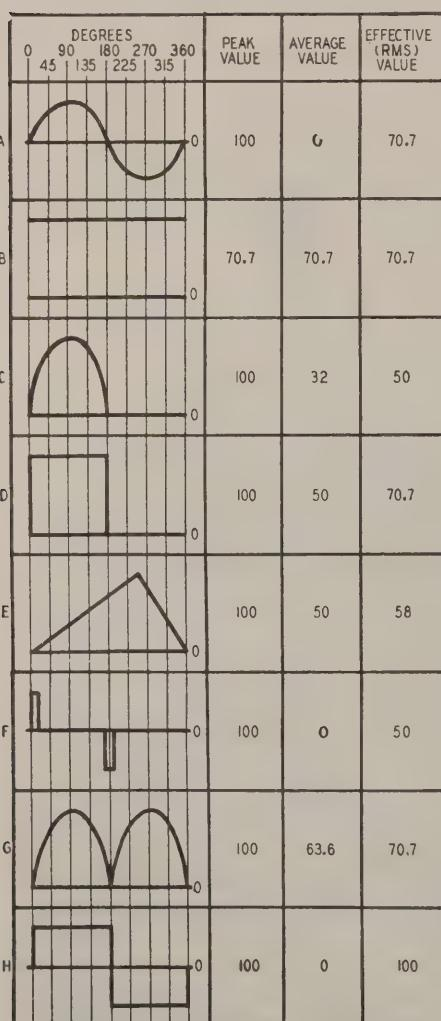
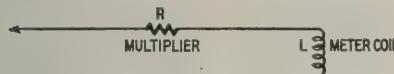

Fig. 1—Shape of the waveform affects peak, average, and effective values.
Fig. 2—Circuit of a d.c. voltmeter.
This is best illustrated by imagining the voltage of Fig. 1-a being measured by our voltmeter. The coil swings in one direction for the positive half of the cycle and in the opposite direction for the negative half. If both alternations are equal in amplitude, we have equal swings. The average of the two swings is, of course, zero, which is what the meter reads. The swinging of the needle is visible only if the frequency is very low. The meter reading is the average of the instantaneous motions of the needle, the average of the currents flowing through the coil over a short period of time. All d.c. meters are calibrated in average values.
What is the significance of the *average value*? Vacuum-tube potentials and currents may vary with instantaneous signal level but proper operation is often determined by the average values. On the other hand, circuit components and the tubes themselves must be selected on the basis of the heating effect of the currents passing through them, which depends on the effective or r.m.s. value. For Fig. 1-b, a d.c. "wave," the average, effective, and peak values are alike. The d.c. meter is designed to measure this type of voltage accurately for only then can it register the heating effect directly. Compare this with Fig. 1-a where the meter would read nothing, yet we know the effective value is as great as for Fig. 1-b.
conventional meters. Step 1 in our calculations is to divide one cycle of any wave into a number of equal time intervals. The greater the number, the better the accuracy. In Fig. 1, the waves are divided into eight parts, though this is far too few for any accuracy. We will then note the amplitude at each of these intervals.
The direction of the current flow has no bearing on its heating effect. Both the negative and positive alternations of a current heat equally a resistor through which it flows. (Note that Fig. 1-g has the same effective value as 1-a.) In other words, polarity is ignored for r.m.s. calculations, but not for averages.
Step 2 is to calculate the average value by adding all the amplitudes and dividing the sum by the number of intervals. Table I lists the data for four of the waves illustrated in Fig. 1. The others are obtained similarly.
As a sample of the calculation of the average value, for Fig. 1-d, the sum of the amplitudes is 400 volts. Dividing by the number of points taken, 8, we arrive at an average value of 50 volts. For 1-a we get zero volts.
The *effective value* is next calculated. The heat produced by a current varies directly as the square of the current ( $P = I^2R$ ), or of the voltage ( $P = E^2/R$ ). The term r.m.s. means "the square root of the average of the squared amplitudes." That is, the effective current is that whose square is the average of all the heating effects. For a sample calculation, for Fig. 1-d (see Table I), the sum of the squared values is 40,000. Dividing by 8, the average of the squares is found to be 5,000. The square root of 5,000 is 70.7 which is the r.m.s. value for the wave. Calculating for Fig. 1-h, we find the effective value is equal to the peak, and the average value to zero.
It is somewhat simpler to understand this last, if we imagine any a.c. wave as it would appear *after full-wave rectification* as in Fig. 1-g compared with 1-a. This is in agreement with what has been said about the direction of the current flow being unimportant. The calculations are based on this "rectified"
Coming back to our d.c. voltmeter, let's see what happens in the measurement of pulsating d.c. voltages. If Fig. 1-d were the plate voltage of a tube, the 50-volt average value would be used in determining the gain or power-handling ability of the tube. The 70.7-volt r.m.s. value would be needed to calculate the wattage of the load resistor. The peak value of 100 volts should be known to select tubes and capacitors that won't break down. The meter, however, is giving us only the
The square wave of Fig. 1-d is formed by the addition of a great many harmonics. It is very possible that many of the harmonics will be lost due to bypassing capacitance in the meter circuits. Something like Fig. 1-c might result. Assume that the peak value remains as high as that of the original square wave. (This is very unlikely.) Then the average value is 32 volts and the effective value is 50 volts, as calculated from Table I. Our meter would read too low. This extreme case indicates what is to be expected and is *not* to be taken as a practical example.
There is yet another cause of error in using the meter on pulses. Look at Fig. 2, the electrical circuit for the d.c. voltmeter. R is the large value of resistance used as a multiplier and L the inductance of the meter coil (usually small in value). Such a circuit is a differentiator. The voltage across the inductance might look like Fig. 1-f if the square wave were applied to the input terminals. It is easy to see that the average and r.m.s. values might be far different from those of the original square wave.
The inaccuracies noted above seem to be avoided by the use of a d.c. vacuum-tube voltmeter operating on peak values. From Fig. 1 it is obvious that, regardless of wave shape, the same peak value will be read for c, d, and e. Unfortunately, the meter is intended to be used with voltages such as Fig. 1-b where the peak value is also the average and r.m.s. value. This is not true